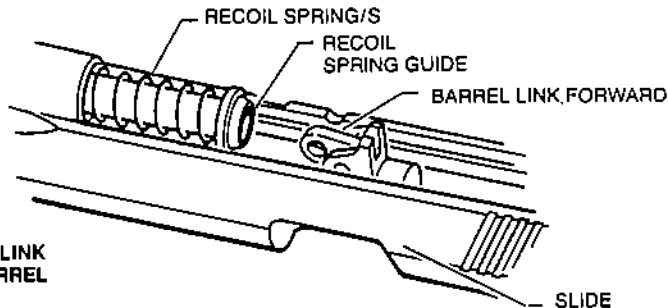

FIGURE 9—ALIGNING LINK FOR REMOVAL OF BARREL
8. **(A & B)** Lift recoil spring and guide and pull them rearward out of slide. (See Figure 9)